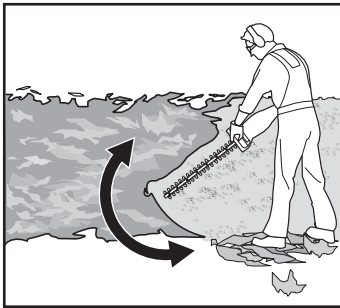

Fig. 7
1. Make sure that the blade cover (1) is removed, and the battery pack (15) is assembled before operation.
4. Always hold the product firmly with both hands on front handle (4) and rear handle (8). Never operate this product using only one hand.
6. First cutting both sides from the bottom upwards to the top. This will prevent any of the cuttings falling into the path of the area still to be cut (Fig. 7).